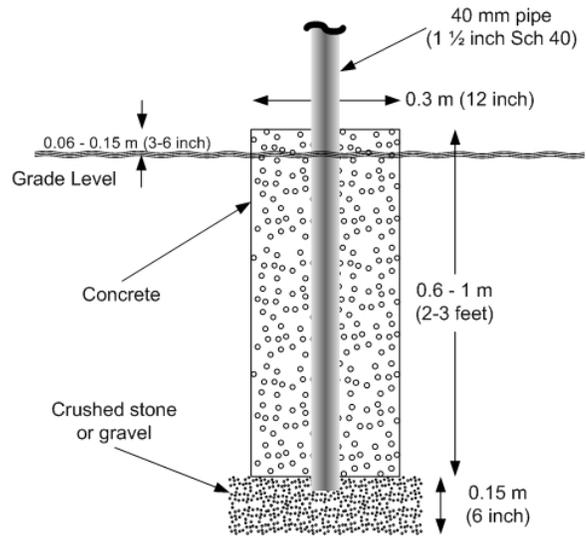

Figure 2.1.2-1 Site Preparation – Concrete Footer
- Support Structure - If the sensor is to be installed as a stand-alone instrument, prepare a concrete footer as shown in Figure 2.1.2-1. It is recommended that depth of the concrete footer is below the frost line to avoid heaving. When preparing for the concrete footer also plan for earth grounding, power wiring, and signal wiring.